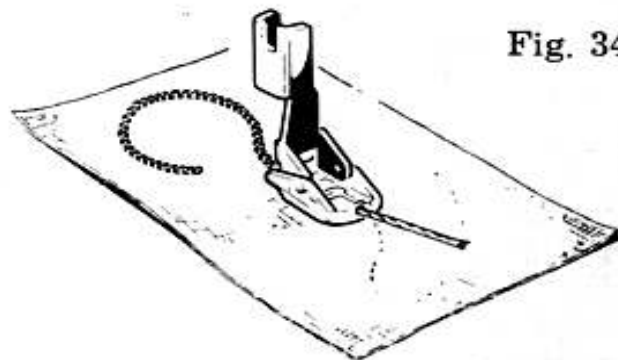

Fig. 34
*Presser foot*: zigzag stitch cording foot (Fig. 34, special accessory upon request and against payment).